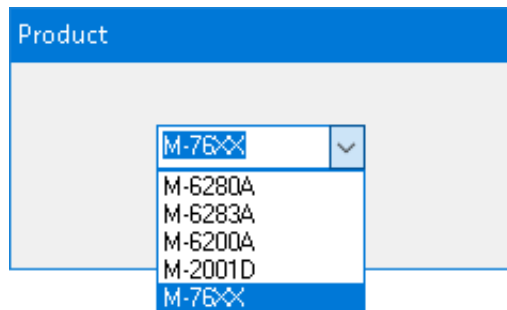

Figure 2-4 REFU Select Product Dropdown List
4. Select "Choose File". The utility will display Figure 2-4 allowing the user to select the applicable product.